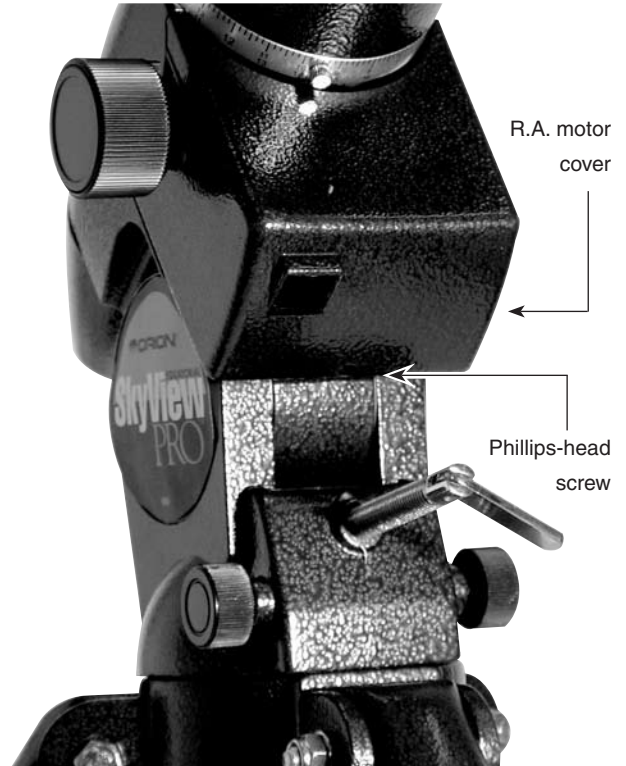

Figure 2. The R.A. motor cover
1. Remove the R.A. motor cover from the mount by loosening the Phillips head screw on the bottom of the cover (Figure 2). Slide the cover off the mount.